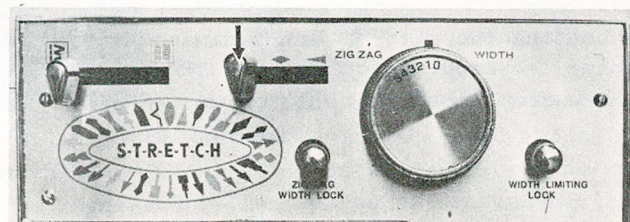

Fig. 22,
A. The machine has three basic needle position-LEFT, center and RIGHT-controlled by a needle position lever to the left of the zigzag stitch regulator as illustrated. Fig. 22